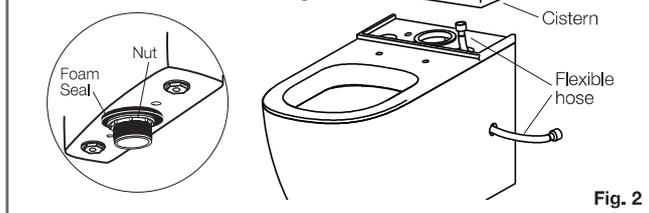

Fig. 2
- 1- Ensure the foam seal at base of cistern is securely attached to cistern base, as detailed in Fig. 2.
- 2- Connect flexible hose to inlet valve and thread other end of flexible hose through side hole on pan, as detailed in Fig. 2. Position cistern onto pan and align the cistern fixing holes with the threaded fixing holes located in the cistern platform.
- 1- Securely attach the self-adhesive foam seal around the outlet on the base of cistern, as detailed in Fig. 2. Remove inlet valve to gain access to the right hand cistern fixing hole.